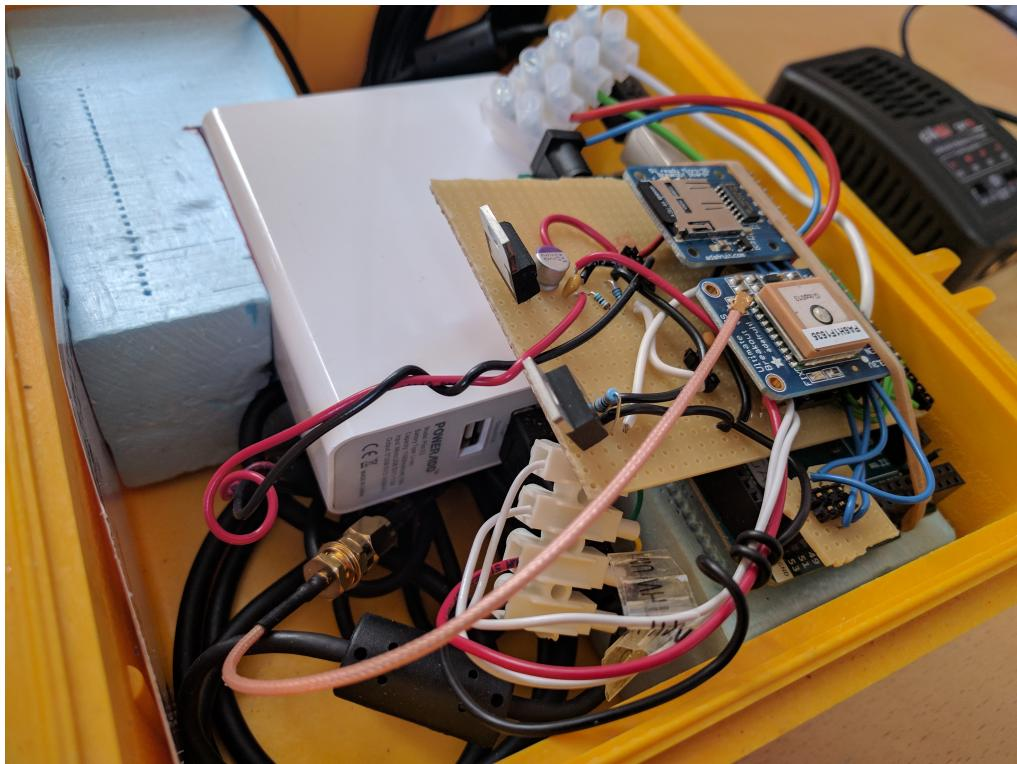
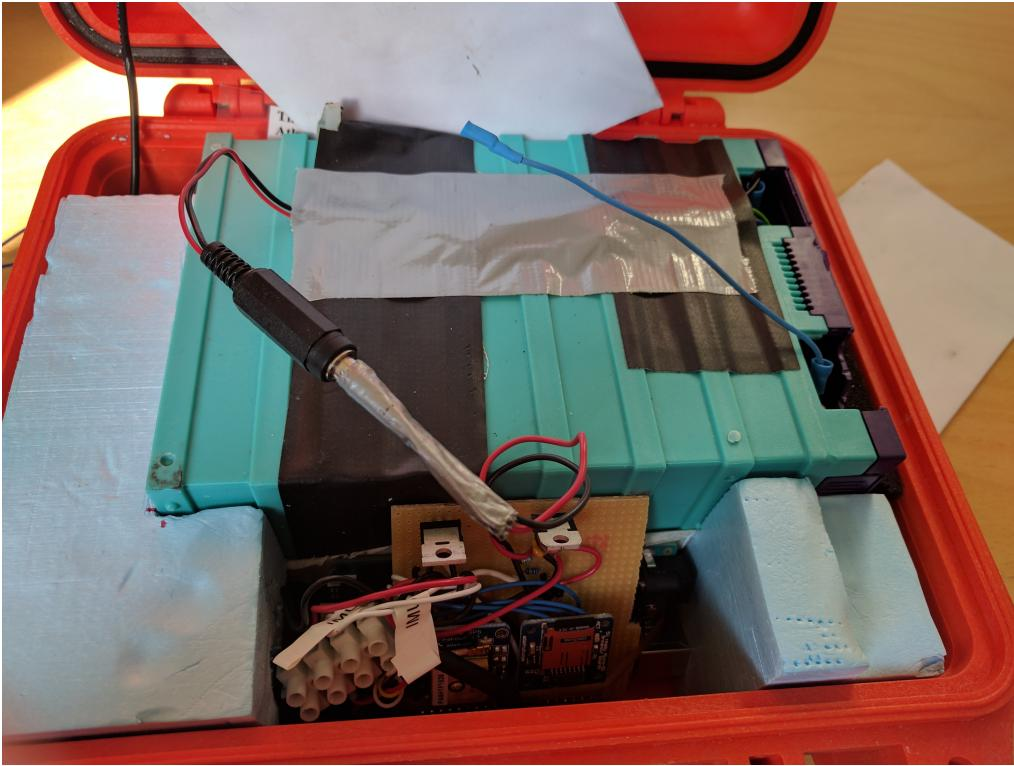

Figure 2: The yellow logger, connected, ready for logging.
Figure 3: The orange logger, connected, ready for logging.
- Put the loggers on. For the yellow loggers, this means plugging the USB cable into the power bank (in one of the outputs, just avoid the 0.5A one that may be too weak), and pressing the button under the charge indication LEDs, see Fig. 2. Once you press the button of the powerbank, power will be delivered to the logger. You can see the battery level by looking at the powerbank LEDs (1: 0 to 25 %, 2: 25 to 50, 3: 50 to 75, 4: 75 to 100). For the orange loggers, simply connect the round connector of the battery to the round connector of the electronics, see Fig. 3. The blue cable is not plugged when the logger is working (it is only used for cell balancing during charge).